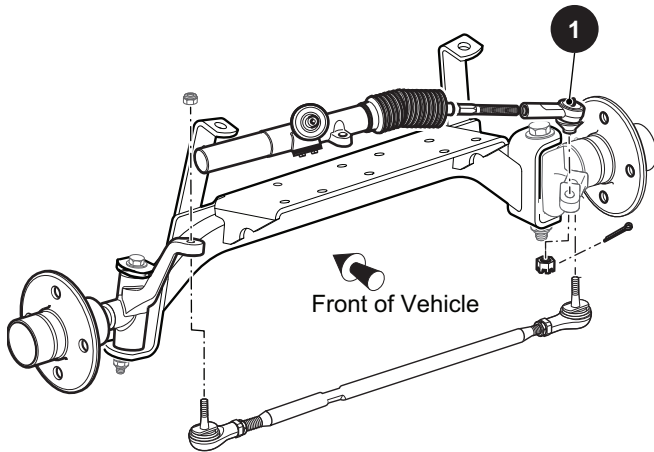

Fig. 1 Lubrication Points
Grease the rack ball joint (1). Wipe off old grease and dirt from the grease fitting and do not use more than three pumps of grease in any grease fitting. Wipe off any grease that is forced out of rubber boot (Ref Fig. 1).